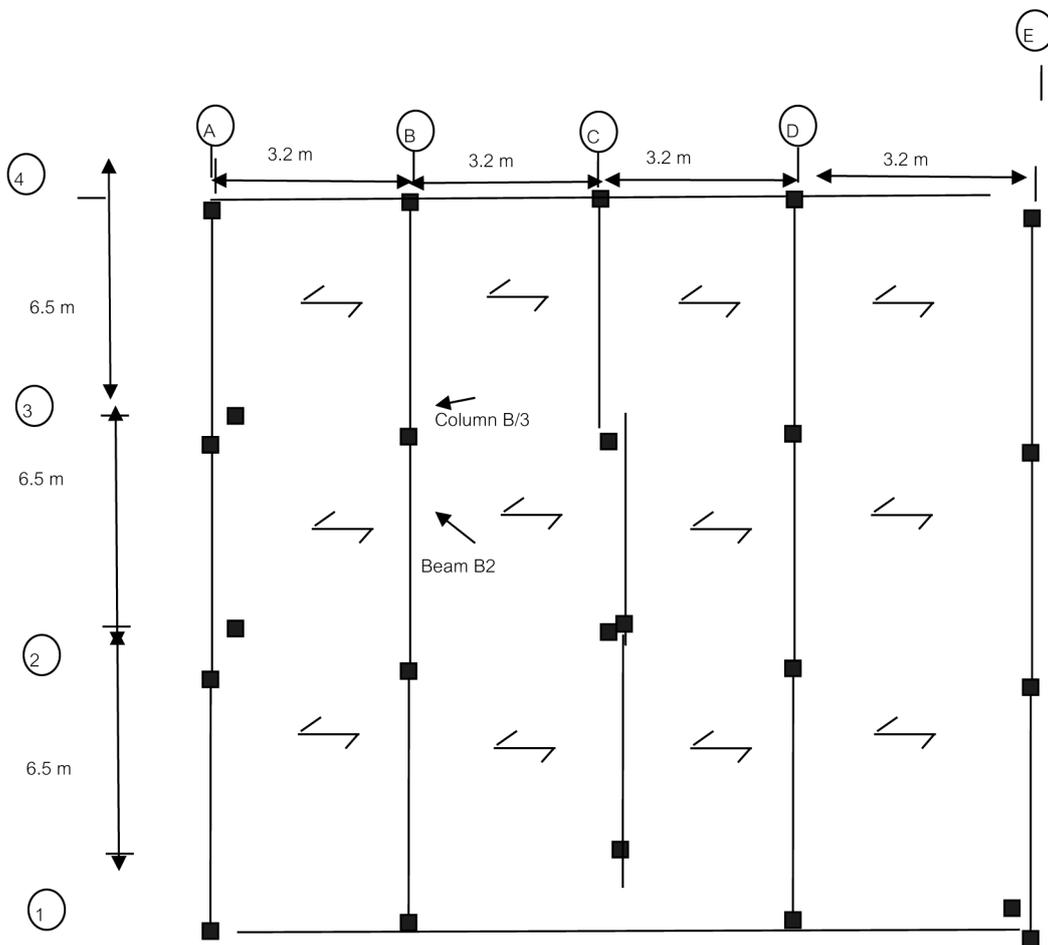

Figure Q.5
- 5 It is proposed to construct a three-storey building with a roof slab. The grid arrangement has been selected as shown in Figure Q.5 for all floors. The floor slabs will be designed as one way since only the main beams are provided as indicated in Figure Q.5. The slab thickness is 150 mm. The live load is considered as 2.5 kN/m². The allowance for the finishes and services is 1.0 kN/m². An additional allowance of 1.0 kN/m² has been allocated for lightweight partitions that will be completed depending on the requirements. The sizes of 6.5 m long spanned beams have been selected as 600 mm x 300 mm (depth x width). The column size is 300 mm x 300 mm. Unit weight of concrete is 24 kN/m³.
- Considering the Ultimate Limit State load combination as $1.4 g_k + 1.6 q_k$, calculate the load transfer to the foundation of column B/3 as shown in Figure Q.5. Floor to floor height is 3.15 m. (9 marks)